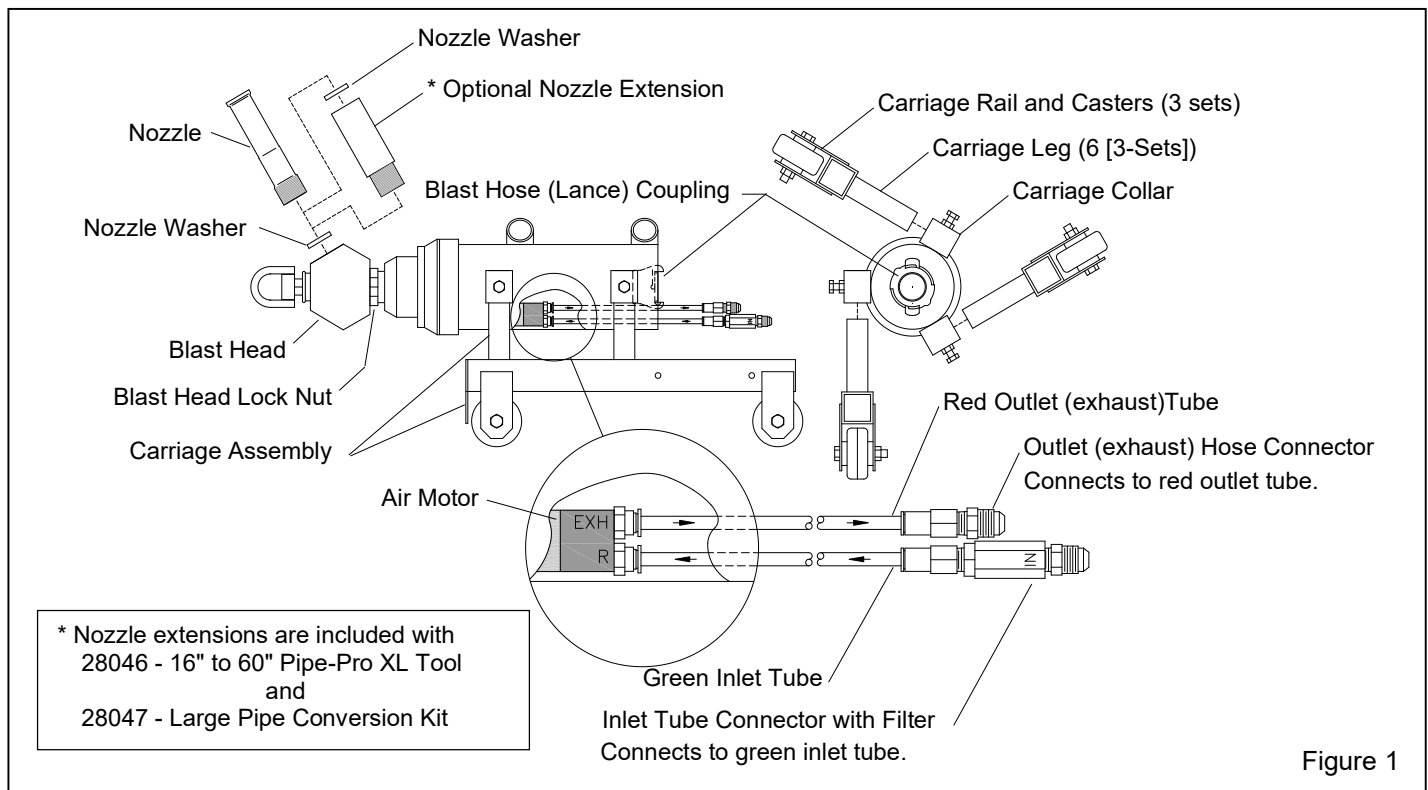
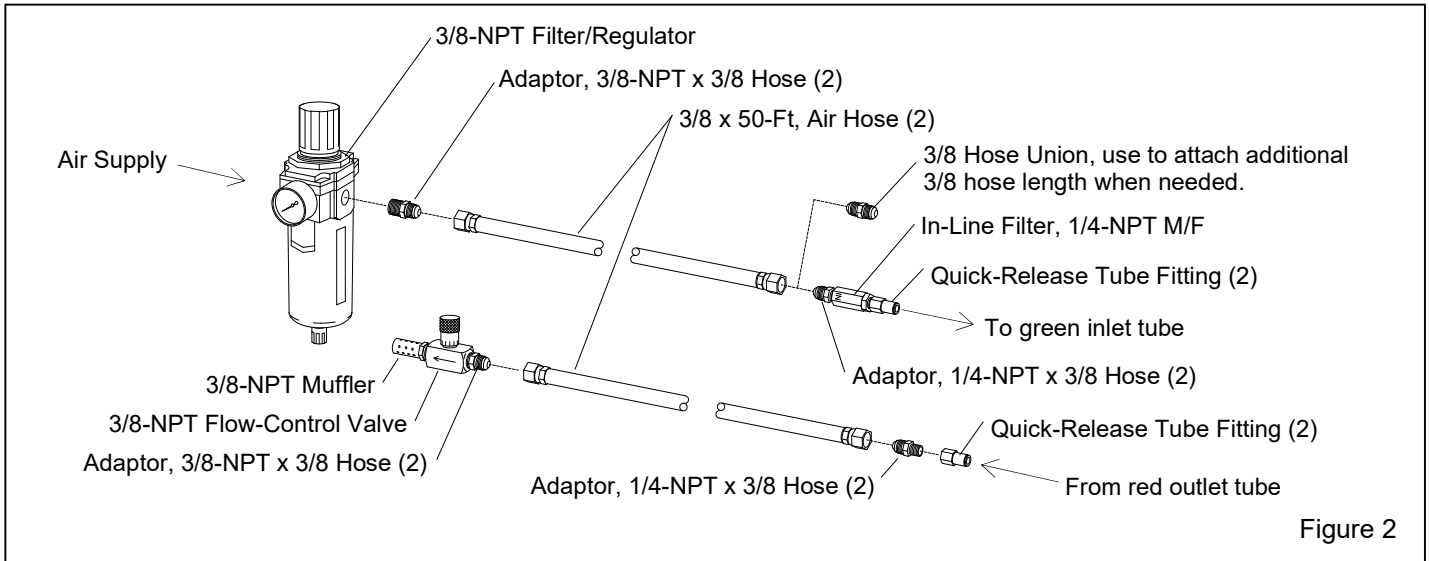

Figure 1
Figure 2
**2.1.1** The primary components of the Pipe-Pro XL™ tool are shown in Figure 1 and Figure 2. Figure 1 shows the basic tool, Figure 2 shows the items in the air motor control-hose kit. The control-hose kit is packaged separately and must be assembled and installed. Nozzles and nozzle extensions are options, which are shown for reference and ordered separately.